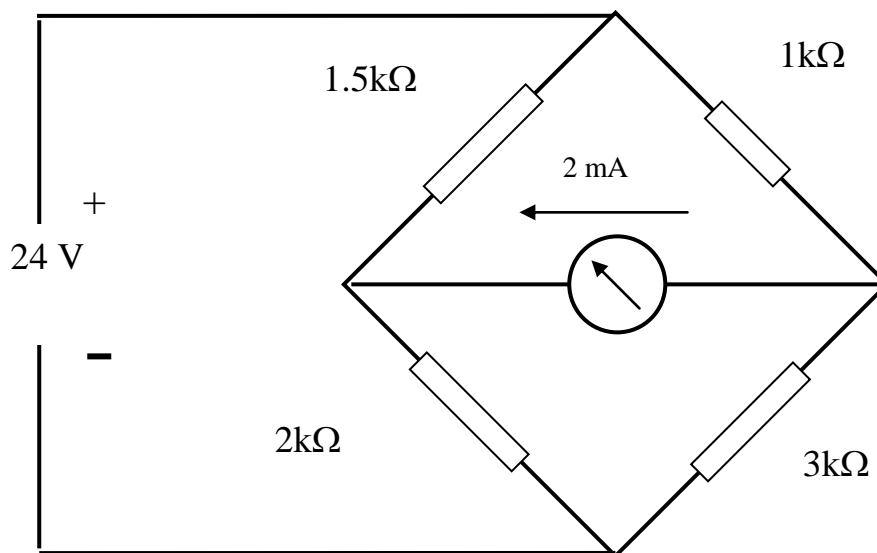

Fig Q1
1. In the network shown in Fig Q1, the meter indicates 2mA in the direction shown.